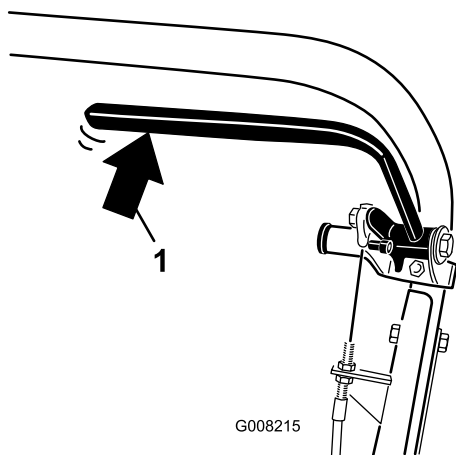

Figure 32
2. Using a spring scale, press rearward on the service brake lever (Figure 32). The parking brake should release when a force of 13.5 to 18 kg (30 to 40 lb) is attained. If the parking brake releases before 13.5 to 18 kg (30 to 40 lb) of force is attained, an adjustment to the brake cable is required. Proceed to step 3.